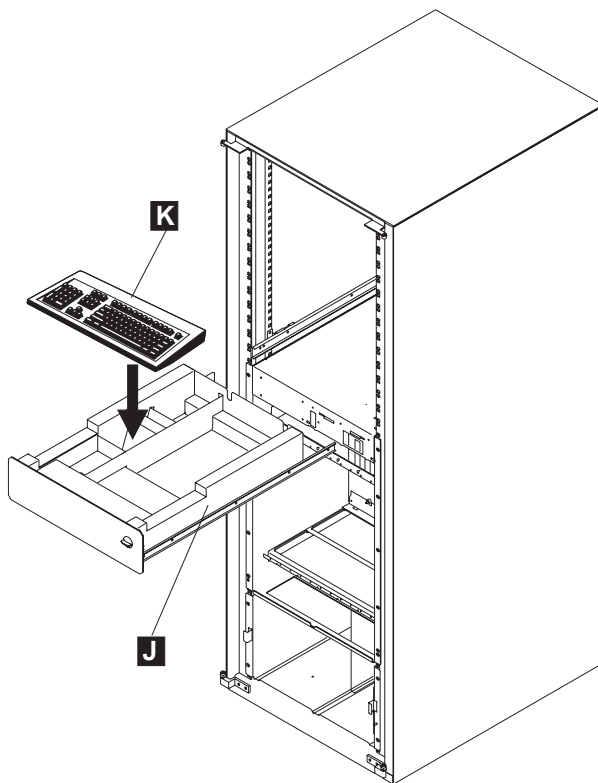

Figure 1-5. Keyboard Installation
1. ____ Unpack the keyboard (PN 59G7982 or 92G7455), open the service drawer **J**, and install the keyboard **K** in the drawer as shown in Figure 1-5.